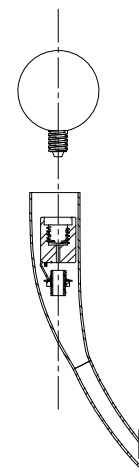

FIGURE-03
9. Screw the lamp into the socket of the fixture. (See FIGURE-03)